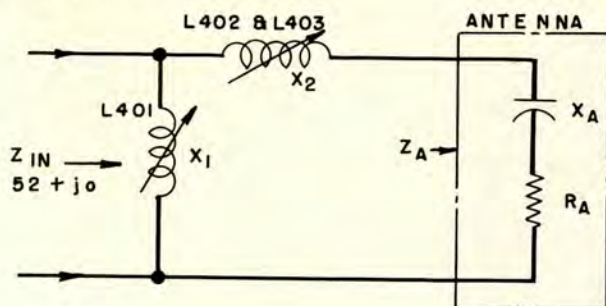

Figure 2-17. Simplified Schematic Diagram of Antenna Coupling Unit, "L"-Connected
e. COUPLING NETWORK. — To match different types of antennas to the transmission line, provisions are made to connect the coupling unit in an "L" network described in subparagraph (1) or in a "T" network described in subparagraph (2). Instructions for making the "T" and "L" connections are given in Section 3, paragraph 10d. In the description of the "L" and "T" networks following, only the essential elements of the matching networks are discussed, and reference is made to the simplified schematics of figures 2-17 and 2-18. Complete circuit details are shown in figure 7-41. Choke L404 (shown only on the complete schematic) is connected across the shunt capacitors in the "T" network to drain off any static charge which may be picked up from the atmosphere by the antenna.
(1) "L" NETWORK. — The Antenna Coupling Unit, when "L"-connected as shown in figure 2-17, is used with antennas whose resistive component is between 25 and 45 ohms, and whose reactive component is capacitive (negative) and between 100 and 300 ohms.
As indicated in figure 2-17, the "L" network consists of two inductances, one (L402 and L403, or L402 alone) in series with the antenna to ground, and the other (L401) paralleling this series combination. By adjusting the inductances, the entire circuit may be tuned to parallel resonance, thereby transforming the low resistance (R_A) of the antenna to a higher equivalent resistance (Z_{in}). If the ratio of L401 to L402-L403 is properly chosen, the equivalent resistance (Z_{in}) may be made to equal the desired line resistance (R_L) of 52 ohms.